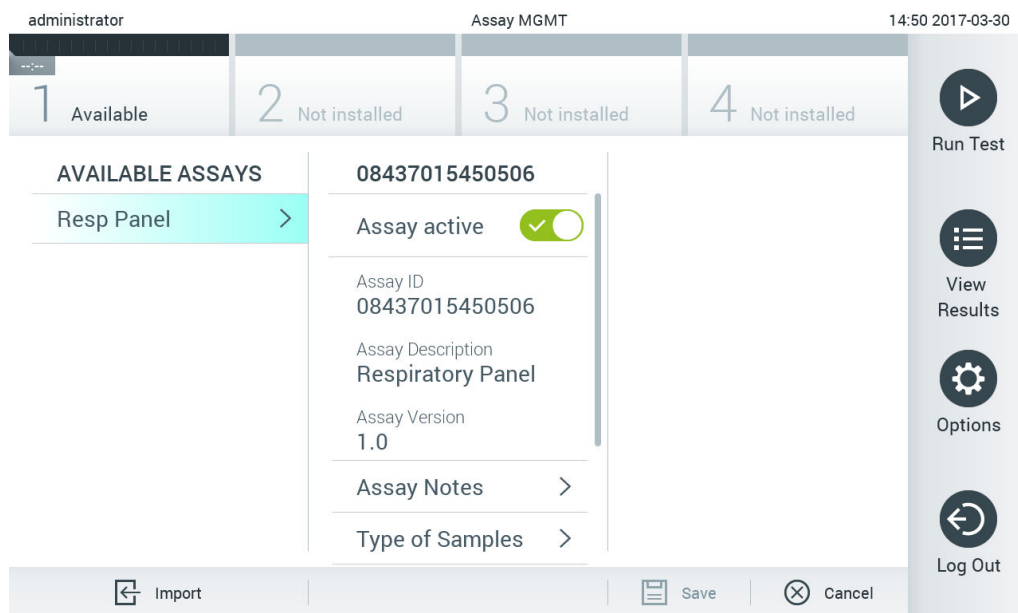

Figure 58. Managing available assays.
1. Press the **Options** button and then the **Assay Management** button to access the **Assay Management** screen. The available assays are listed in the first column of the content area (Figure 58).